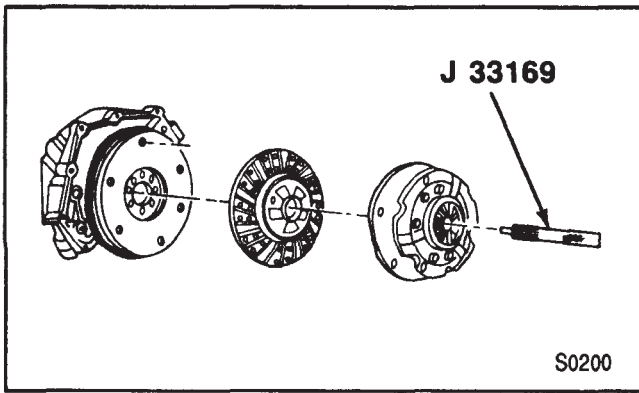
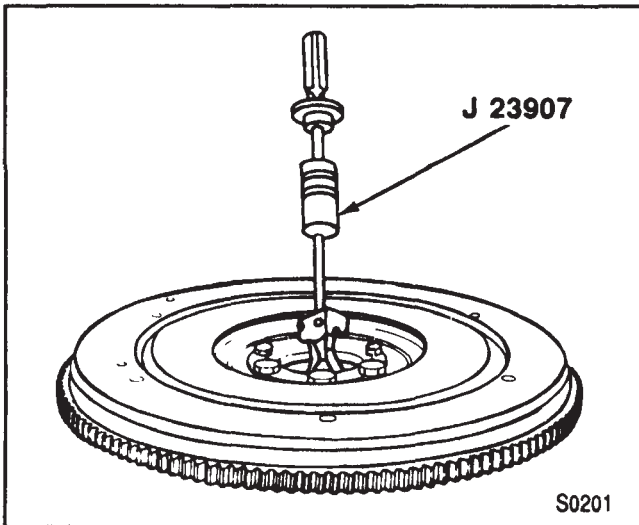
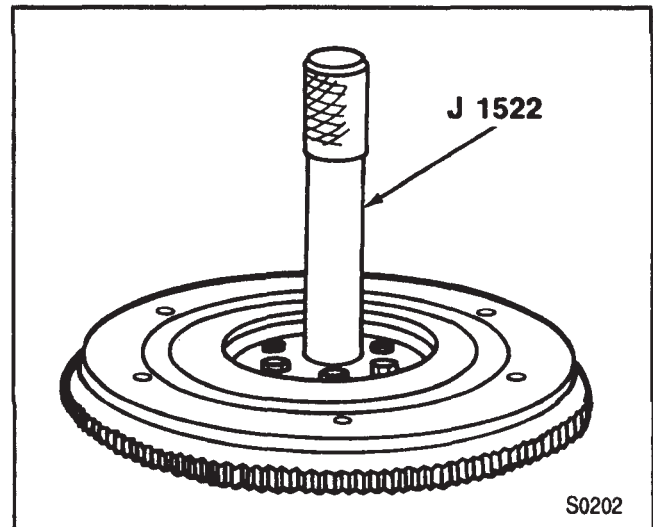

Figure 8—Installing Clutch Alignment Tool
Figure 9—Removing the Pilot Bearing
Figure 11—Installing the Pilot Bearing
2. Secondary cylinder (142).
3. Bolts (173) and cover (172).
4. Bolts (165) and flywheel housing (164).
5. The clutch fork (167) and release bearing (162).
- Pry the clutch fork off the ball stud (163).
- Pry the retainer (166) out of the clutch fork if it is worn or damaged.
6. Ball stud (163).
- Install J 33169 clutch alignment tool or a used clutch drive gear to support the clutch (figure 8).
7. Bolts (161) and washers (160).
8. Pressure plate (168) and the driven plate (169).
9. Pilot bearing (170) if it is worn or damaged.
- Flywheel (171), if removed. Refer to "Flywheel Replacement" in this section.
- Pilot bearing using J 23907 (figure 9).
1. New pilot bearing (170) if needed. Use J 1522 to drive the bearing in until the tool bottoms out (figure 11).
2. Flywheel (171), if removed. Refer to "Flywheel Replacement" in this section.
3. Driven plate (169) and cover (172).